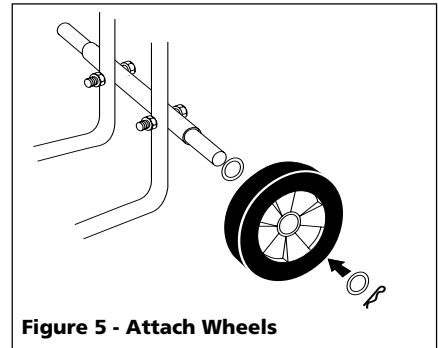

Figure 5 - Attach Wheels
5. Repeat for the other side (See Figure 5).